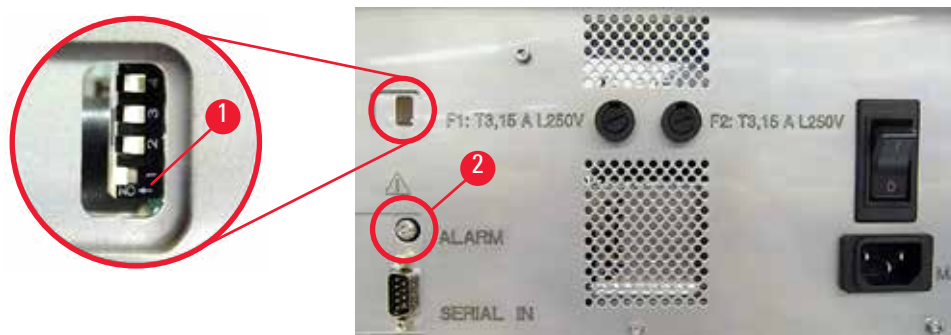

Fig. 41
- » To deactivate the beeper, push the switch at the very bottom (→ "Fig. 41-1") to the right (→ "Fig. 41").